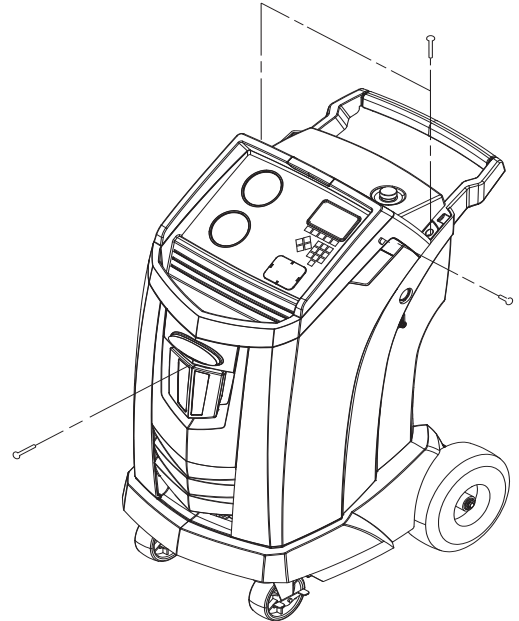

Figure 7
Turn off the machine. Remove the oil bottle. Remove the four screws holding the shroud. See Figure 7.
3. Remove the screws holding the shroud. See Figure 7.